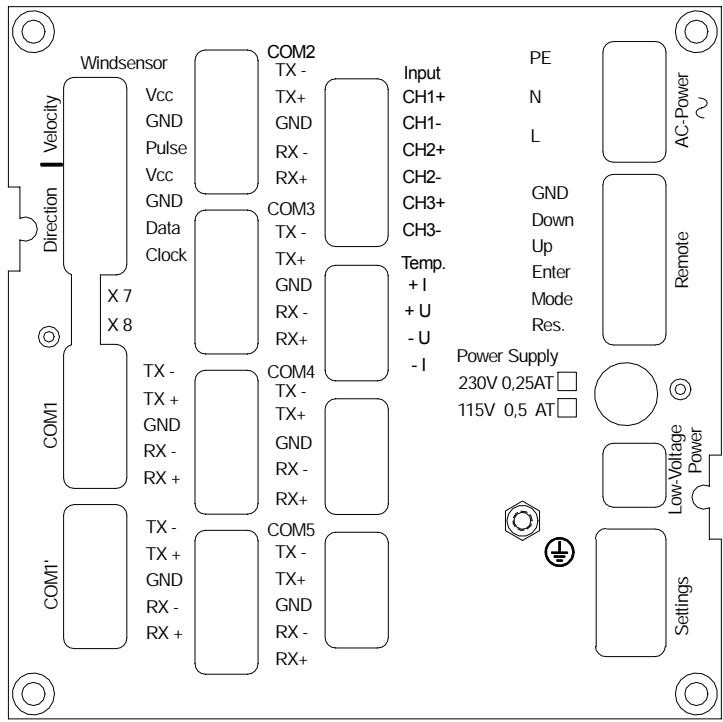

Figure 3: Rear panel 4.3251.0x.002
Contact pins X7 that can be bridged with a jumper are located on the rear panel of the Winddisplay, for termination in case of long lines (refer to fig. 3).
- The integrated termination resistor (RT=200Ω) can be activated (refer to fig. 3) through use of a Jumper (X7) on the receiver (slave).